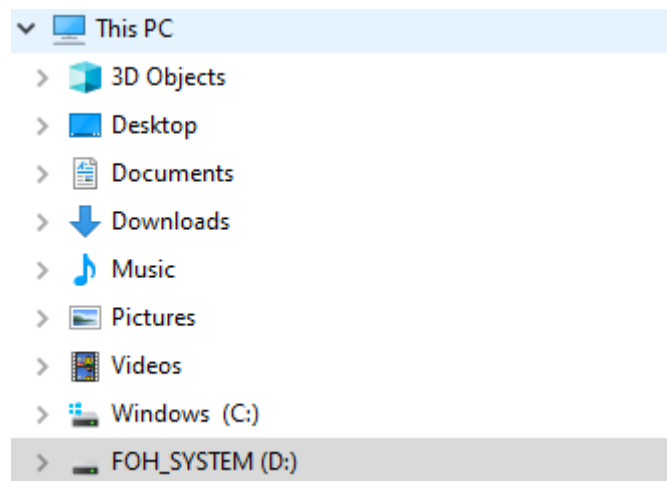

Figure 16. Example of FOH_SYSTEM drive visible on file explorer as drive D.
2) Following procedure detailed in step 1). Ensure the system storage drive is discoverable via the windows file explorer. The system drive should be accessible and have the name 'FOH_SYSTEM' (Figure 16). If it is not discoverable, please consult the '**Supplier details**' section of this manual to get in touch.